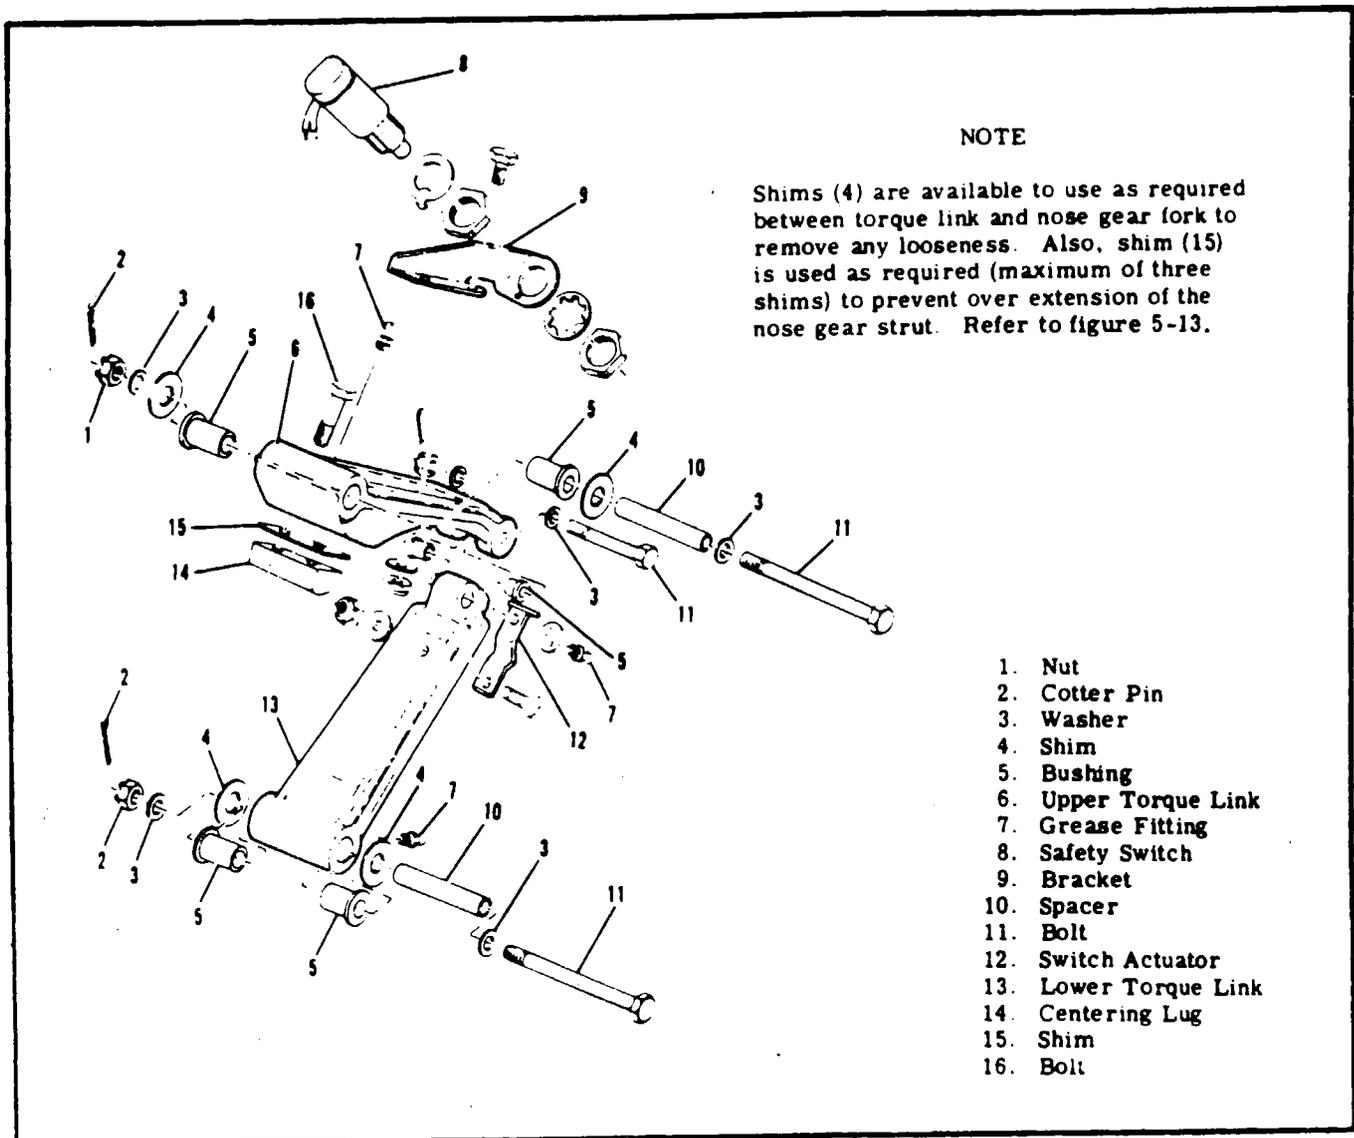

Figure 5-18. Nose Gear Torque Links
5-104. TORQUE LINKS. (Refer to figure 5-18.)
5-106. REMOVAL OF TORQUE LINKS. (Refer to figure 5-18.)
Refer to figure 5-18.) The figure may be used as a guide for disassembly and reassembling the torque links. Bushings should not be removed except for replacement of parts. Replace any parts
- b. Assemble and attach nose gear downlock mechanism to lower trunnion as shown in figure 5-18.